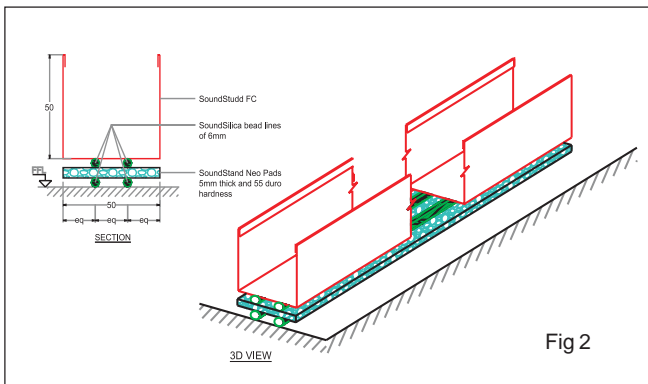

Fig 2
Optional - Where base floor is highly uneven or structural vibration, that is induced by low frequency (LF) soundwaves or mechanical equipment, is envisaged, Stand Neo pads (an ideal blend of neoprene and rubber with vibro-acoustic control characteristics) of specified thickness and hardness, usually 5 mm thick and 55 duro hardness, are installed on the floor with Fire bead lines and again Fire bead lines applied on the pad to received the Studd framework. (See Fig 2)